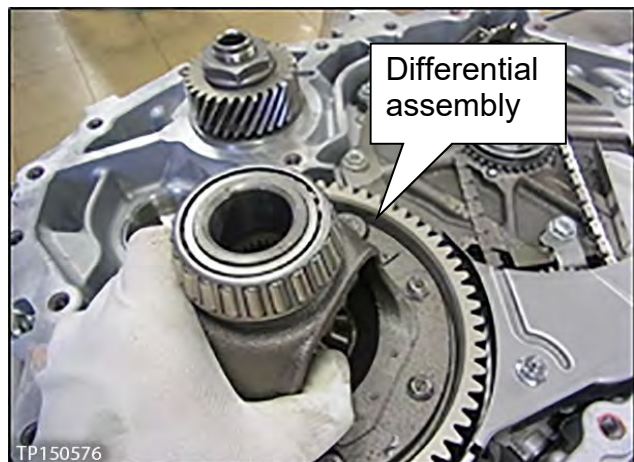

Figure 35
20. Carefully remove the differential assembly (Figure 35).